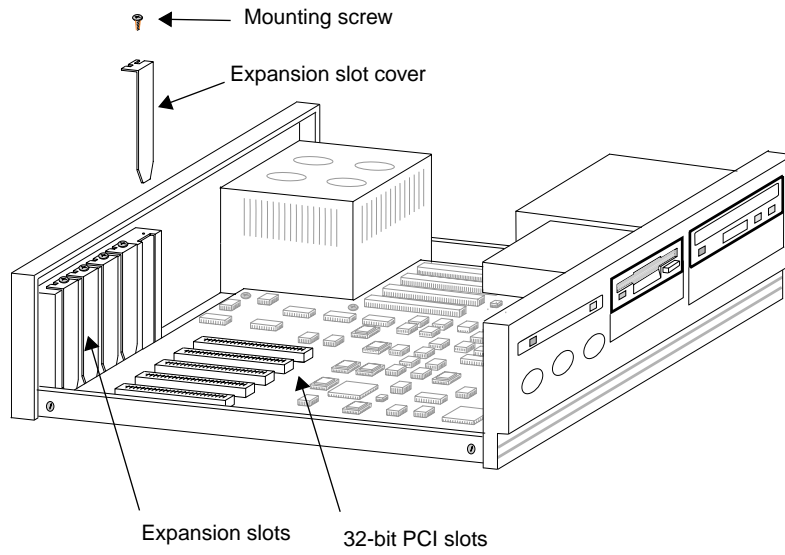

Figure 2-1 Removing Expansion Slot Cover
- 6 Remove the metal expansion slot cover from the computer chassis, as shown in Figure 2-1.**